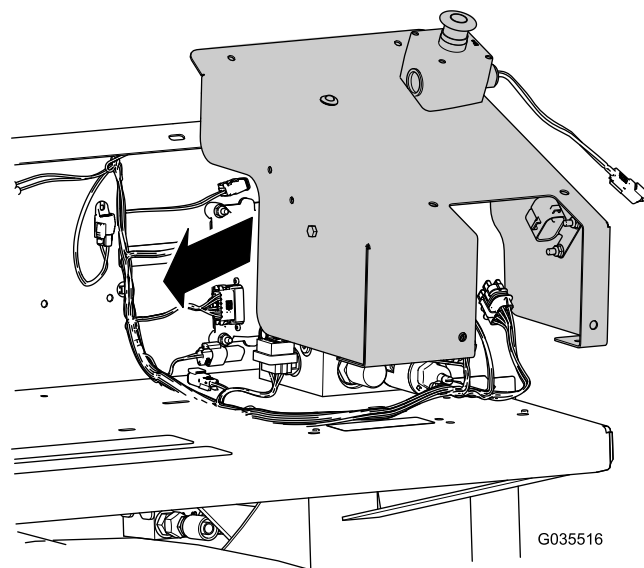

Figure 18
9. Place the cover, with the previously installed relay, fuse-block cap, light, and E-Stop button assembly, onto the fender guard (Figure 18).